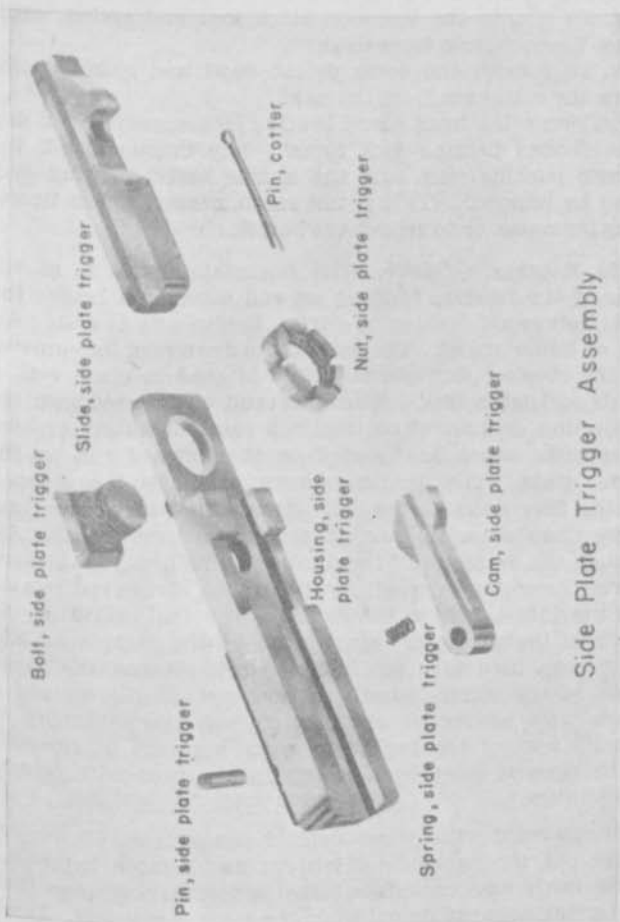

FIGURE 11.—Side plate trigger assembly.
58. DETAILED DISASSEMBLING OF CASING GROUP.—a. To remove the side plate trigger assembly from the casing, withdraw the cotter pin from the side plate trigger bolt and unscrew the side plate trigger nut. To disassemble the assembly, unscrew the side plate trigger extension screw, lift off the side plate trigger extension, and remove the side plate trigger slide spring. Push the side plate trigger slide out of its guides in the housing. Swing the side plate trigger cam upward and lift out the side plate trigger spring. The side plate trigger cam can be removed by driving out the side plate trigger pin, but this is not done unless necessary for replacement of the cam. (See fig. 11.)